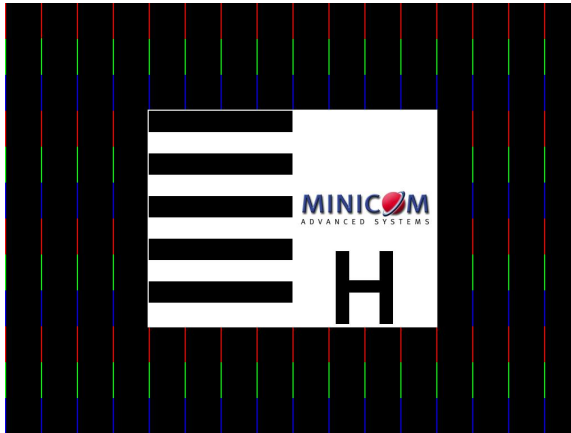

Figure 34 Test card
1. Open the test card located on our website www.minicom.com/support/skew.png or www.minicom.com/support/skew.gif or, on the supplied CD. Or open the Service Utility and choose Tools/Options, the Preferences window appears, see Figure 25 above. Check Show Skew Picture. When you click the Tuning tab the test card appears in the background. See Figure 34. This image will help you get the best screen image. It can also help to correct skew.